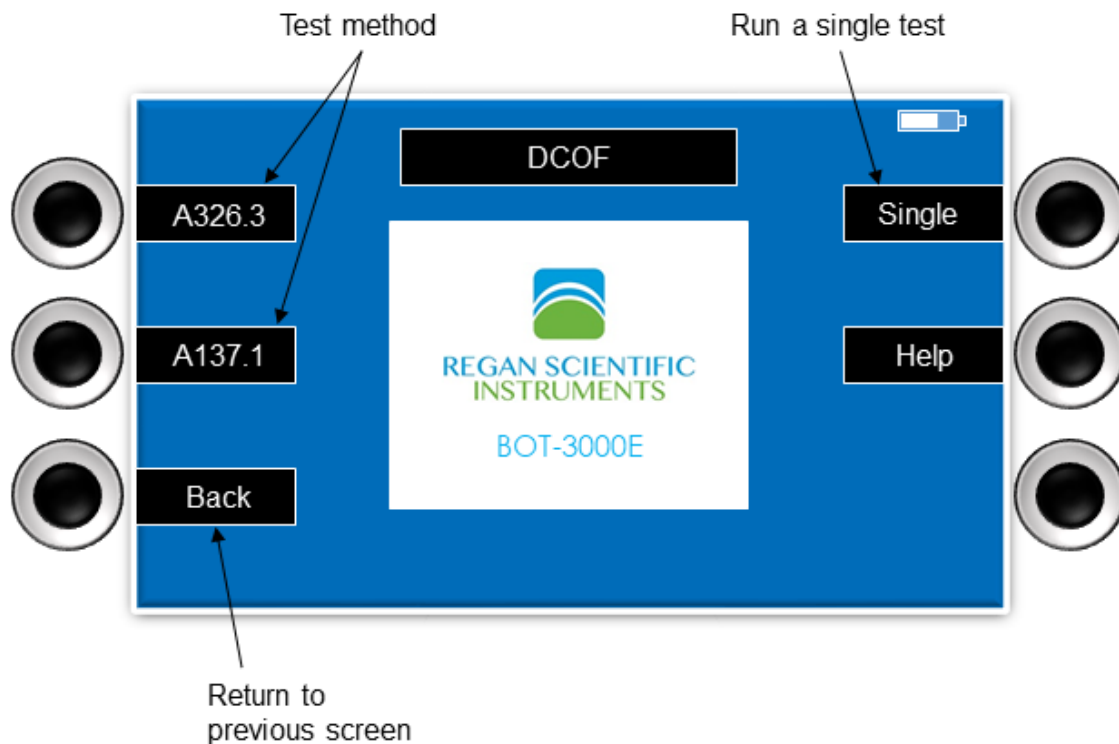

Figure 3
5. In DCOF mode, you may select “SINGLE” to perform one test, otherwise select one of the Standard Test Methods (Fig. 3).